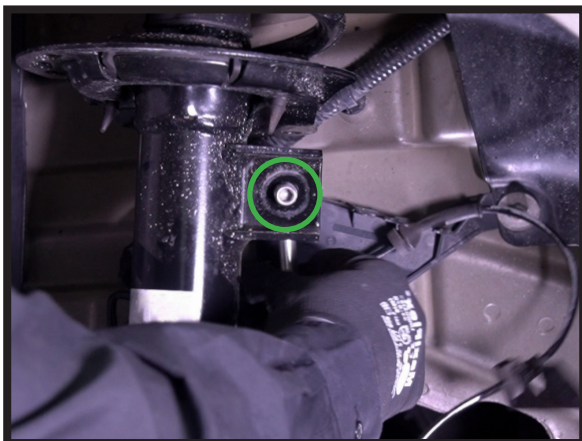

FIGURE 6
4. DISCONNECT SWAY ARM LINK FROM THE SHOCK. (FIGURES 6, 7)